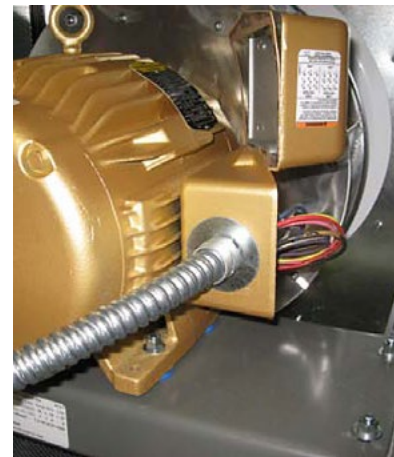

Figure 17: Remove electrical cable
3. Disconnect the four-wire electrical cable from the motor junction box. Make note of wire locations for reinstallation later (see Figure 17).